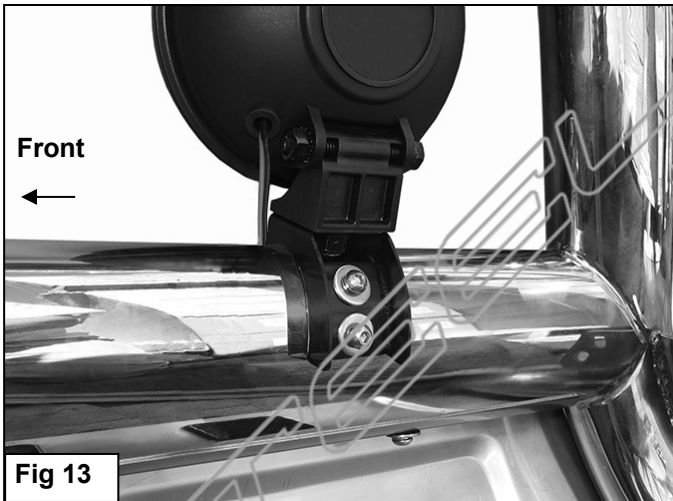

Fig 13
- a) Select (1) Light Mount, **(Figure 12)**. Use the hardware included with the light to attach the light to the top of the Light Mount. If light has a separate tilt feature, fully tighten base mounting hardware, **(See example Figure 13)**. If light adjusts with the base mounting hardware, skip to **Step 9b**.
- b) Remove the rubber plug on the top of the crossbar. Bolt the light and Light Mount to the back of the Bull Bar with the included (4) 6mm x 20mm Button Head Bolts, (4) 6mm Lock Washers and (4) 6mm Flat Washers, **(Figure 13)**. **NOTE:** If light adjusts with the base mounting hardware, hand-tighten the light hardware; do not fully tighten hardware at this time. You may have to install, adjust, remove light with Bracket and readjust a few times to get the light properly adjusted.